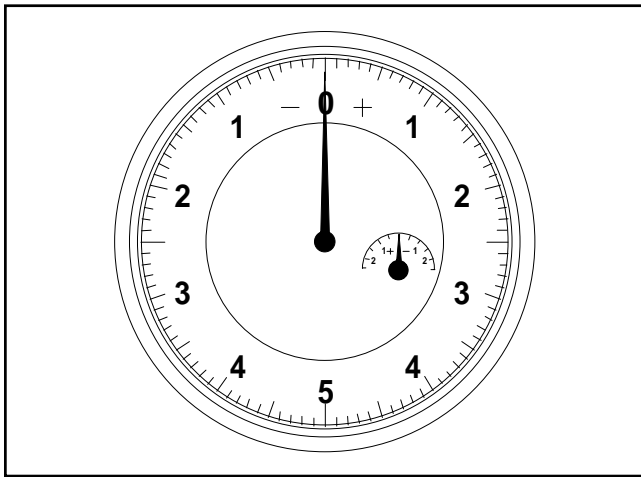

Figure 2. Pin Depth Gauge
Table 2 provides performance specifications. Figures 2 and 3 provide outline drawings.
a. Beware of Destructive Pin Depth on Mating Connectors. Measure the pin depth of the connector that mates with the RF component, *before* mating. Use an ANRITSU Pin Depth Gauge (Figure 2, Table 1) or equivalent. Based on RF components returned for repair, destructive pin depth on mating connectors is the major cause of failure in the field. When an RF component connector is mated with a connector having a destructive pin depth, damage will likely occur to the RF component connector. (A destructive pin depth has a center pin that is too long in respect to the connector's reference plane.)